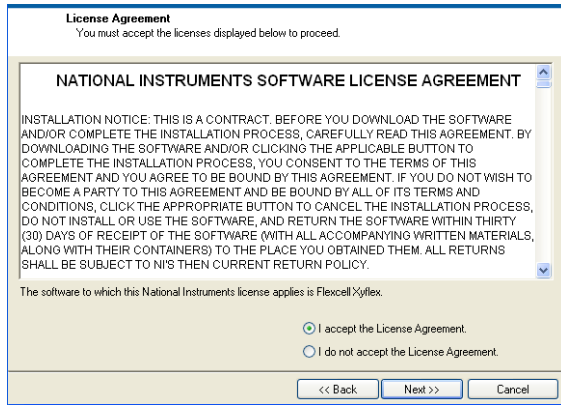

Figure 3. NI license agreement
- 5) Accept the National Instruments license agreement and click *NEXT* (**Figure 3**).